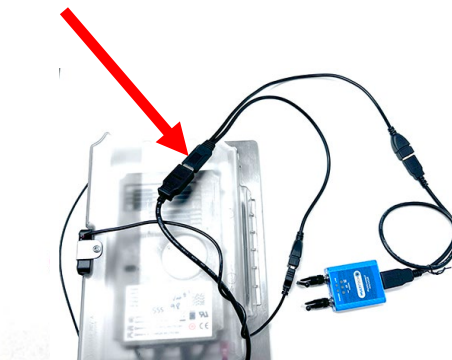

Figure 17
16. Connect to the USB plug on the rear of the Vat #1 controller. If a cooling housing is installed, connect a splitter between the USB cable modem and the cooling fan cable (see Figure 17).